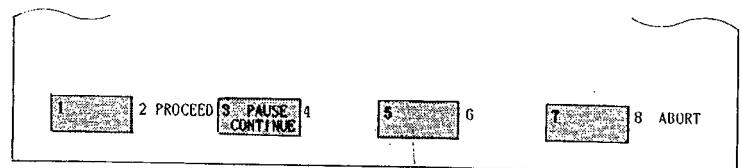

Fig. 7.51
- If non-confirmity is found by the verify process, the label shown in Fig. 7.51 is displayed, and the buzzer sounds intermittently for 5 seconds. Depress **PROCEED** to continue comparing, and depress **ABORT** to call up the display show in Fig. 7.30 again. If **PAUSE** is depressed to change it to **CONTINUE**, the verify continues to the end without stopping even non-conformity is found. In this case, "XXXXX MISCOMPARE: VERIFY COMPLETE" will be displayed in the message area.